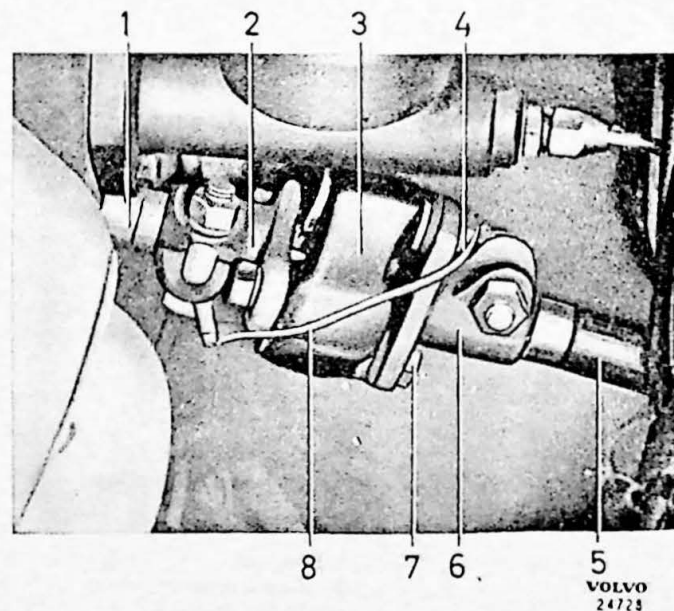

Fig. 6-21. Steering shaft coupling
2. Remove the ground lead (8, Fig. 6-21) and the two nuts (4 and 7).
1. Wash the steering box clean externally and remove the flange (6, Fig. 6-21) from the steering shaft after having marked up its position.
2. Fit the flange to the coupling disk, see Fig. 6-21. Do not forget the ground lead.